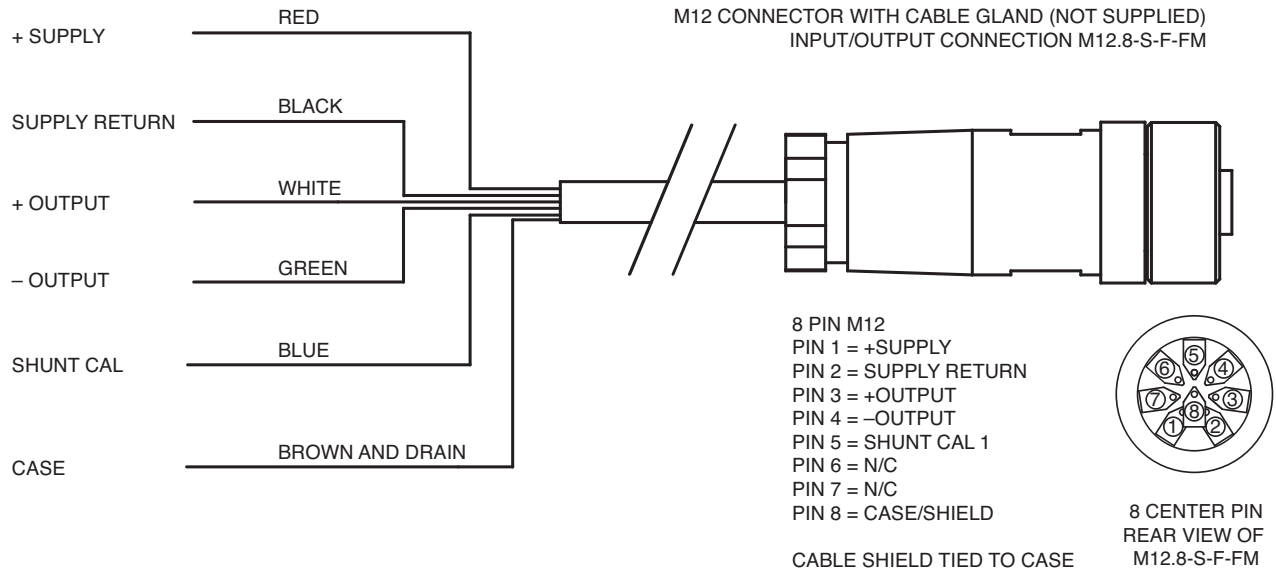
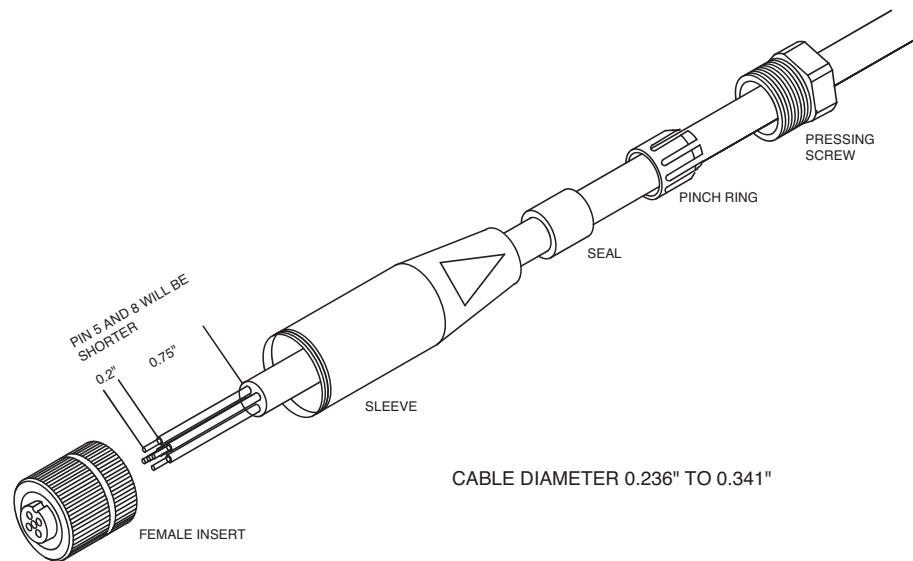
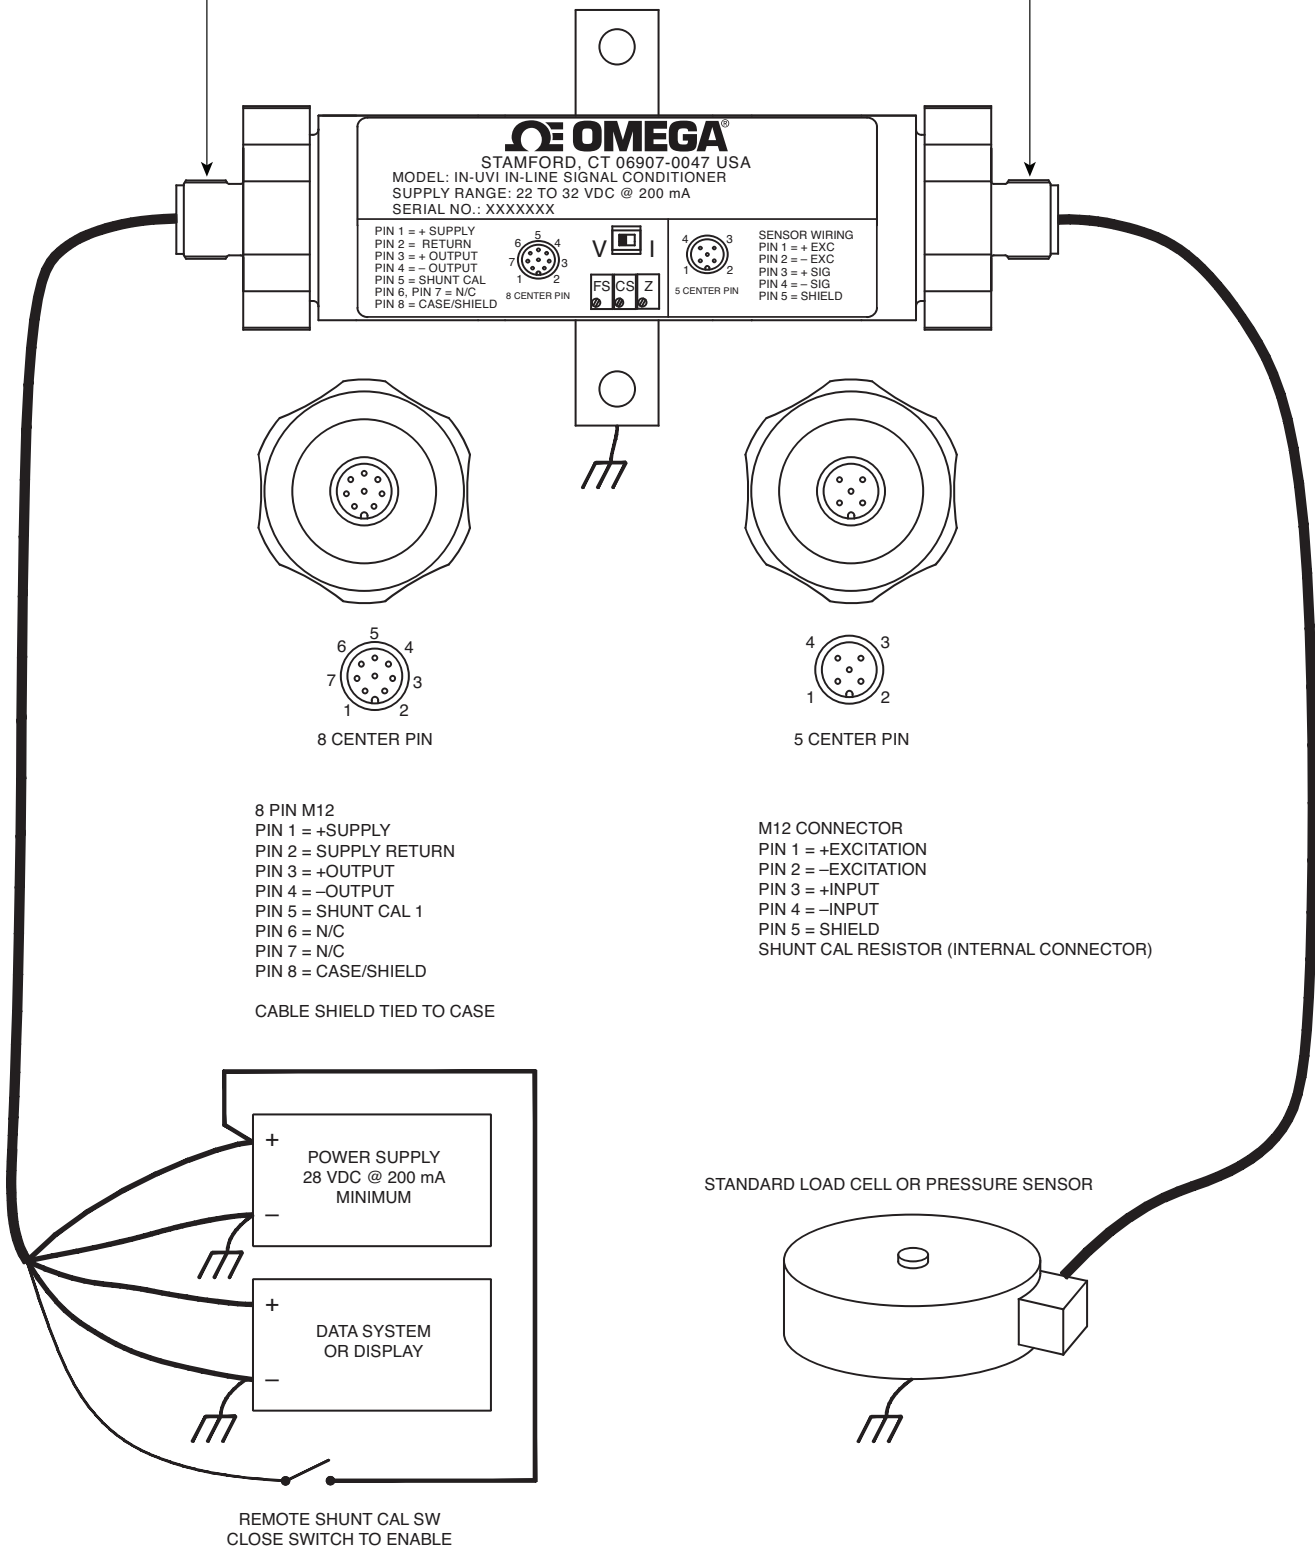

Figure 2-2. Wiring Using TX8 Cable
Figure 2-3. Assembly Of M12.5 And M12.8 Connectors
Figure 2-4. Typical IN-UVI System Schematic
10. The INPUT/OUTPUT cable should be wired as shown in Figure 2-2. The supply return (PIN 2) and negative output (PIN 4) should be grounded to earth to prevent damage from voltage transient. If the Shunt Cal is being used, it is activated by connecting PIN 5 to PIN 1 by a switch or some type of jumper. The system should be similar to the system in Figure 2-4.
Step 3. Connect a jumper between PIN 5 and PIN 1 of the INPUT/OUTPUT connector (See Figure 2-2) or wire in a switch as shown in Figure 2-3. Adjust the SPAN potentiometer to the calculated voltage or calculated units on the readout instrument or voltmeter.